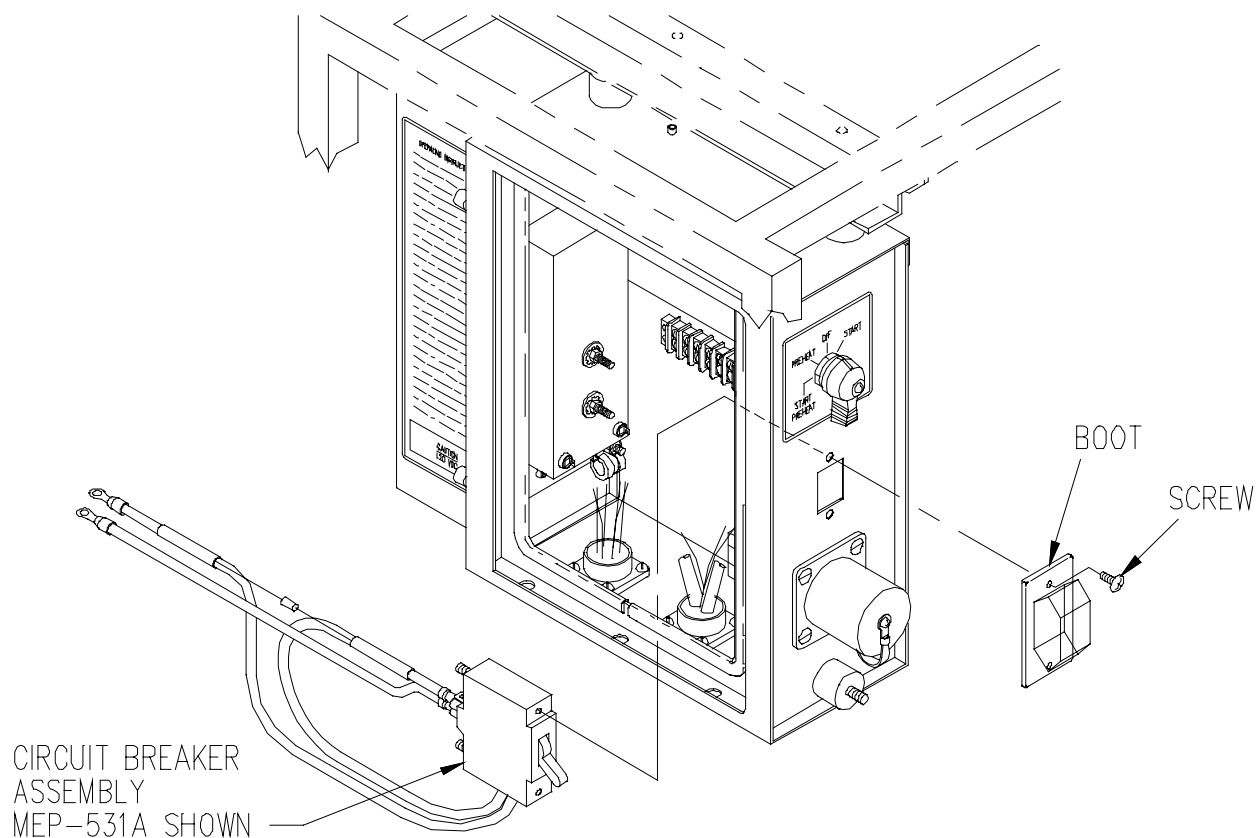

Figure 4-40. ON-OFF Load Circuit Breaker Assembly and Boot
- (1) Shut down generator set.
- (2) Release instrument panel by turning fastener, open instrument panel slowly.
- (3) Tag and disconnect electrical leads for ON-OFF load circuit breaker assembly (Figure 4-40) from TB1-2 and TB1-7 (MEP-531A).
- (4) Tag and disconnect electrical leads from terminals on ON-OFF load circuit breaker assembly.
- (5) Remove screws, boot, and ON-OFF load circuit breaker assembly from control panel.
- (1) Insert ON-OFF load circuit breaker assembly (Figure 4-40) into control panel.
- (2) Position boot over ON-OFF load circuit breaker assembly and secure both to control panel with screws.
- (3) Connect electrical leads to terminals on ON-OFF load circuit breaker assembly and remove tags.